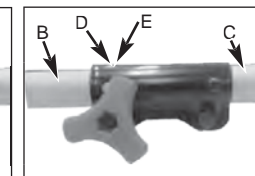

Fig. 2B
- While firmly holding the attachment (B), push it straight into the Quick-Change coupler (C) until the release button (D) appears in the primary hole (E) of the Quick-Change coupler. (Fig. 2B)